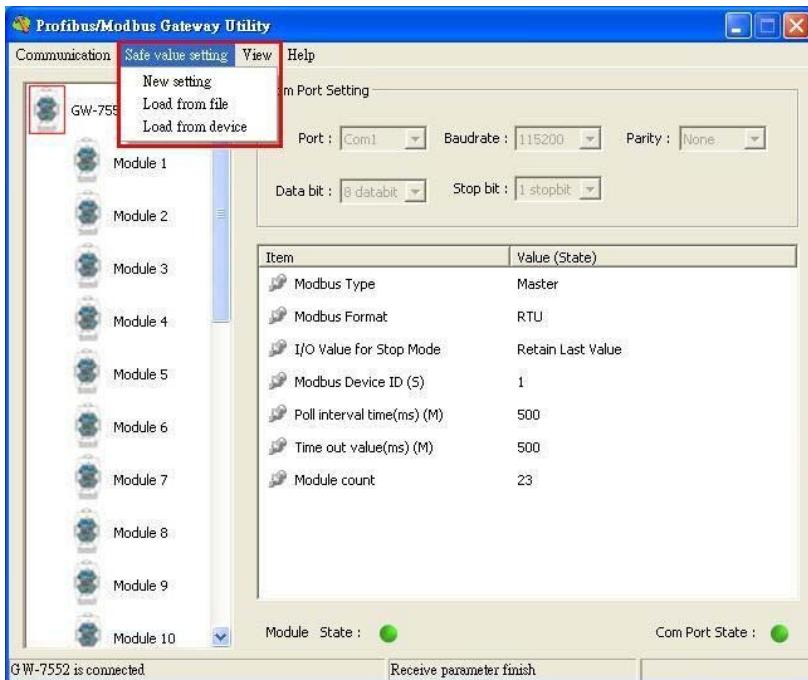

Figure 60 The menu of safe value setting
There are 3 kinds of safe value setting. They are (1) Open a new setting 、(2)Load from file 、(3)Load from device, as shown in *figure 60*.